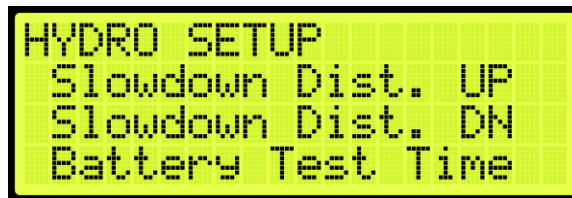

Figure 345: HYDRO SETUP Menu – Slowdown Distance UP or DOWN
2. From the HYDRO SETUP menu, scroll and select Slowdown Distance UP or DOWN (See Figure 345).
2. From the HYDRO SETUP menu, scroll and select Slowdown Distance Up (See Figure 345).